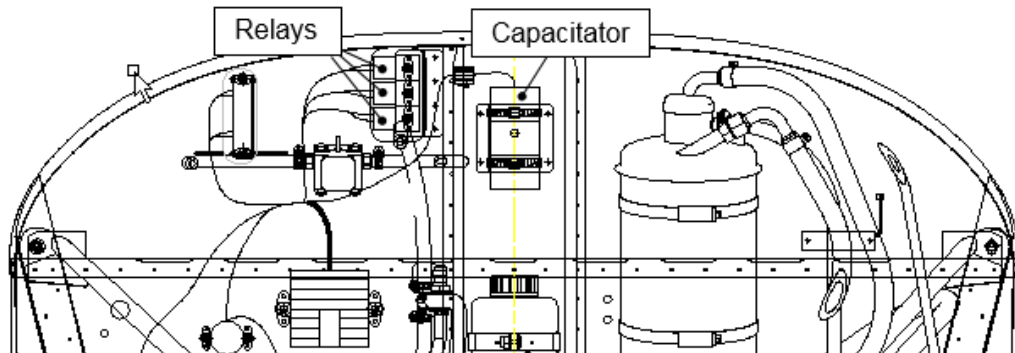

Figure 7 - Firewall – front view (from the engine side)
10. Remove three relays and one capacitor, do not disconnect the wiring - see Figure 7.